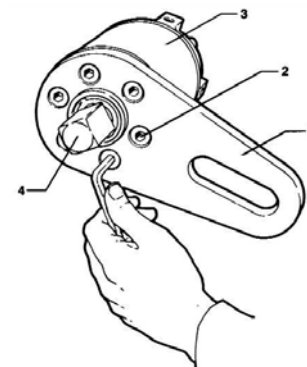

Figure 3. Changing the Anchor Plate
- 8.1 Remove the six screws (Fig. 3, Item 2) holding the reaction anchor plate (Fig. 3, Item 1) to the torque multiplier, and remove the reaction anchor plate from the torque multiplier.